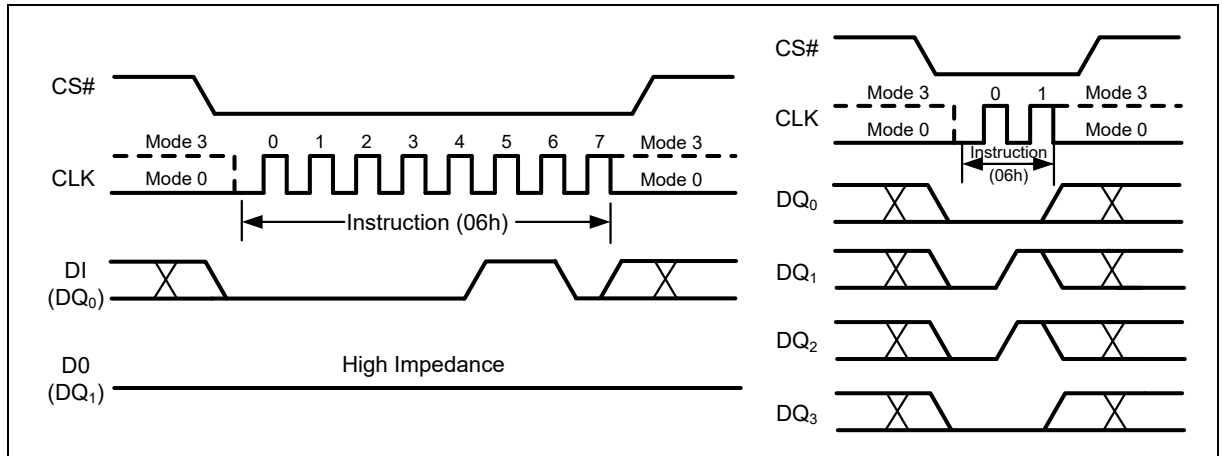

Figure 11 Write Enable Instruction for SPI Mode (left) or QPI Mode (right)
The Write Enable (WREN) instruction (Figure 11) sets the Write Enable Latch (WEL) bit in the Status Register to a 1. The WEL bit must be set prior to every Page Program, Quad Page Program, Sector Erase, Block Erase, Chip Erase, Write Status Register, Erase/Program Security Sectors and Block/Sector Lock/Unlock instruction. The Write Enable (WREN) instruction is entered by driving CS# low, shifting the instruction code "06h" into the Data Input (DI) pin on the rising edge of CLK, and then driving CS# high.